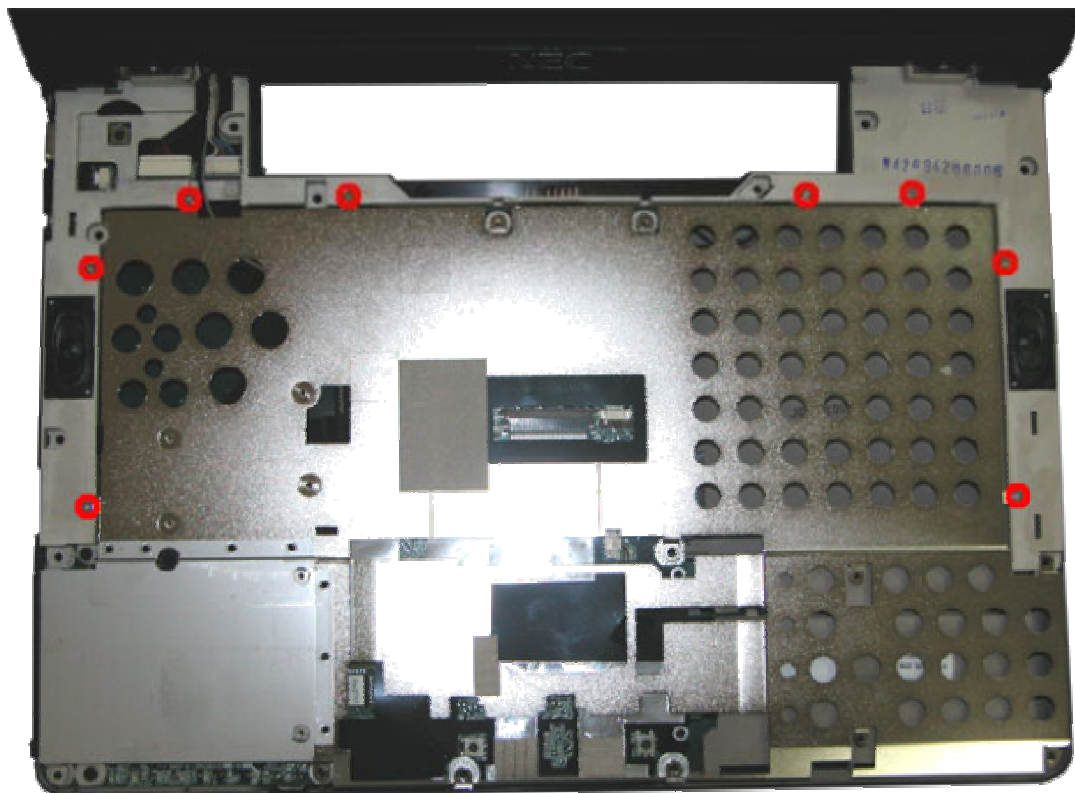

Fig. 22 Removing the Heat Plate
2. Unscrew all screw encircle on Heat Plate as shown in Fig. 22 and carefully separate it from base unit.